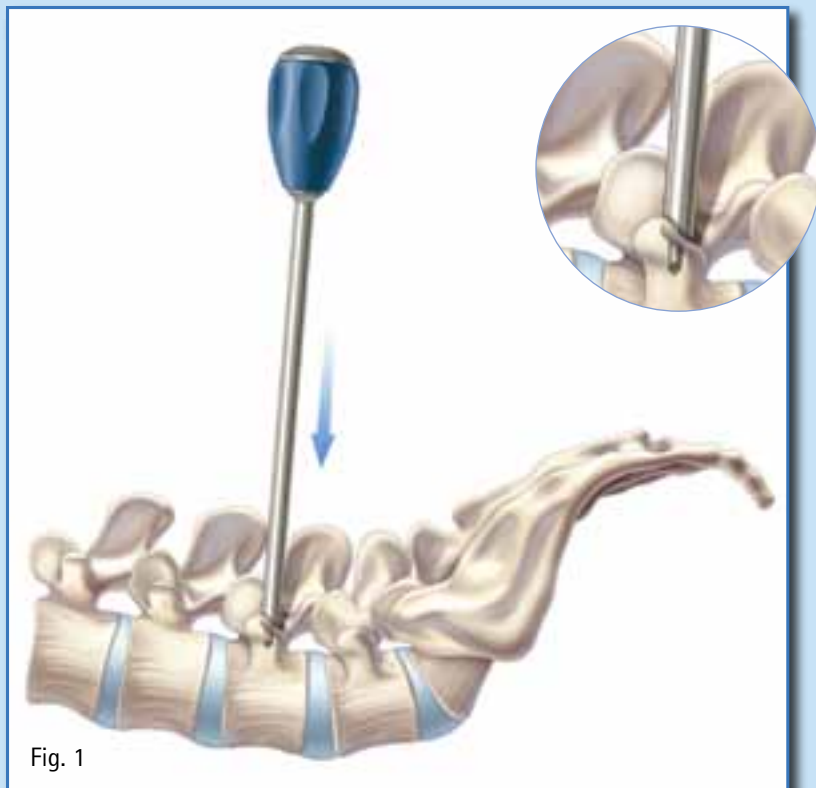

Fig. 1
- Determine pedicle entry point and perforate the cortex using the bone awl (FW190R). (Fig. 1)